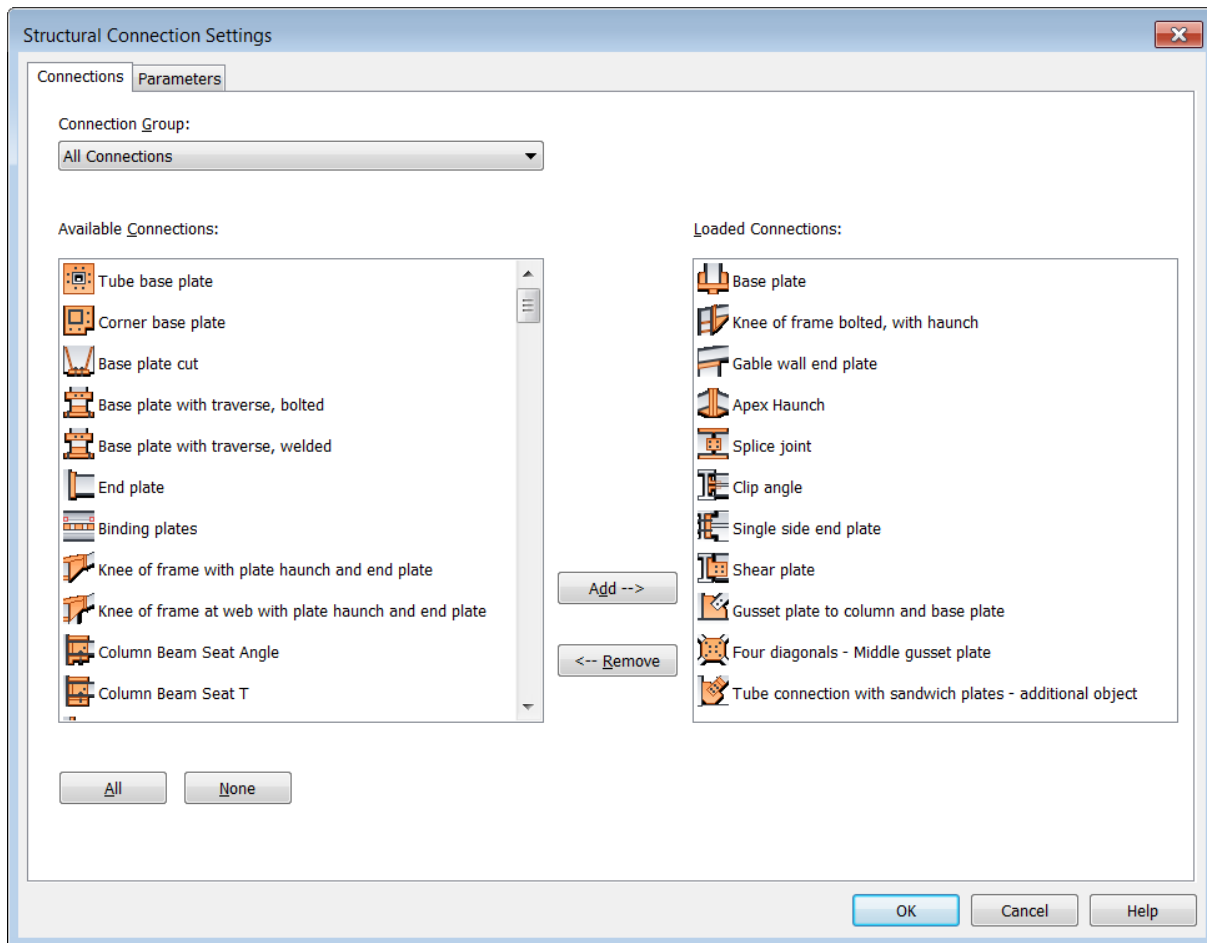

FIGURE 32: THE CONNECTION LOADED FOR USE
7. In the **Available Connections** area of the dialog box, double-click on the connections that you want to add to the structural model; the connections will be displayed in the **Loaded Connections** area, as shown in Figure 32.
After you have selected the connections you want to use in the dialog box shown in Figure 32 above, you are ready to insert these connections. The following is the procedure for doing this.